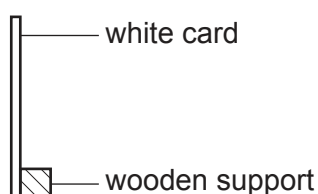

Fig. 3.2
- 2 The screen can be made from a sheet of rigid white card, approximately $15\text{ cm} \times 15\text{ cm}$. Some means of supporting the screen vertically must be provided (e.g. fixing the white card to a small block of wood – see Fig. 3.2).